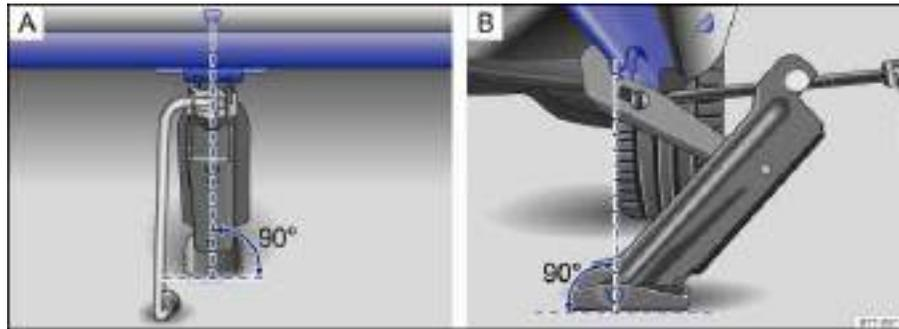

Fig. 186 Jack in position at the left rear lift point.
10. Position the jack so that its base is directly underneath the lift point ⇒ fig. 186, making sure that the entire base of the jack rests securely on the ground.